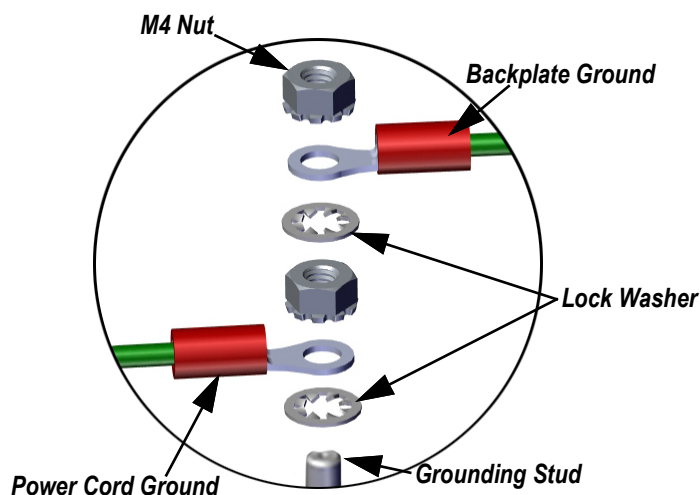

Figure 2-10. DC Grounding Stackup
3. One wire will be terminated (grounded) at a stud near the cord grip using the grounding stackup torqued to 10 in-lb (see Figure 2-10 on page 24).